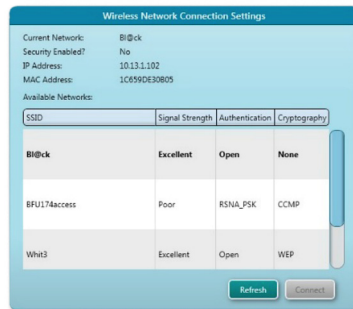

Figure 31. Example wireless network selection table.
- 3 Click the right arrow (bottom right) once. This will bring up the Wireless Network Connection Settings screen shown in **Figure 31** on page 52.